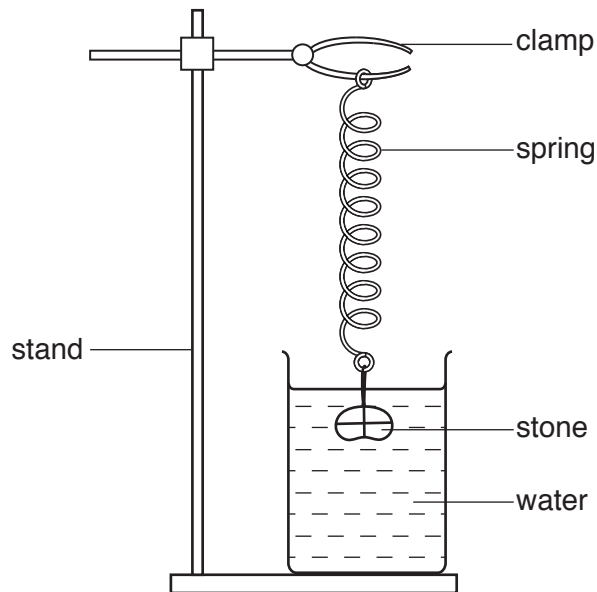

Fig. 2.3
- Slowly lower the clamp until the stone is completely immersed in the water, as shown in Fig. 2.3.